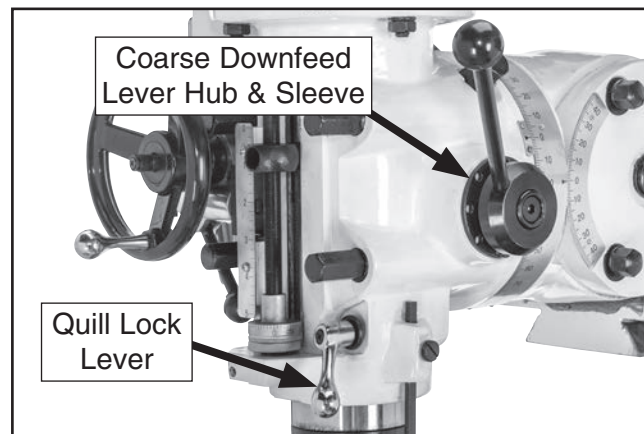

Figure 46. Coarse downfeed lever hub, downfeed sleeve, and quill lock.
3. Make sure pin of coarse downfeed lever hub is engaged with one of the detents on downfeed sleeve, and loosen quill lock lever (see **Figure 46**).